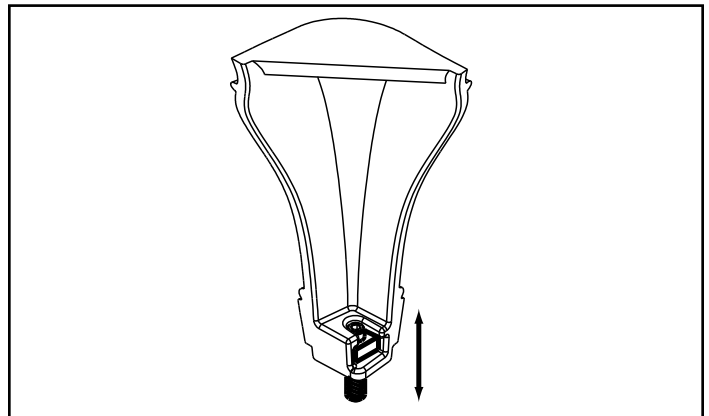

Figure 22.4
10. Use Allen wrench to adjust legs up and down to desired level (Figure 22.4).